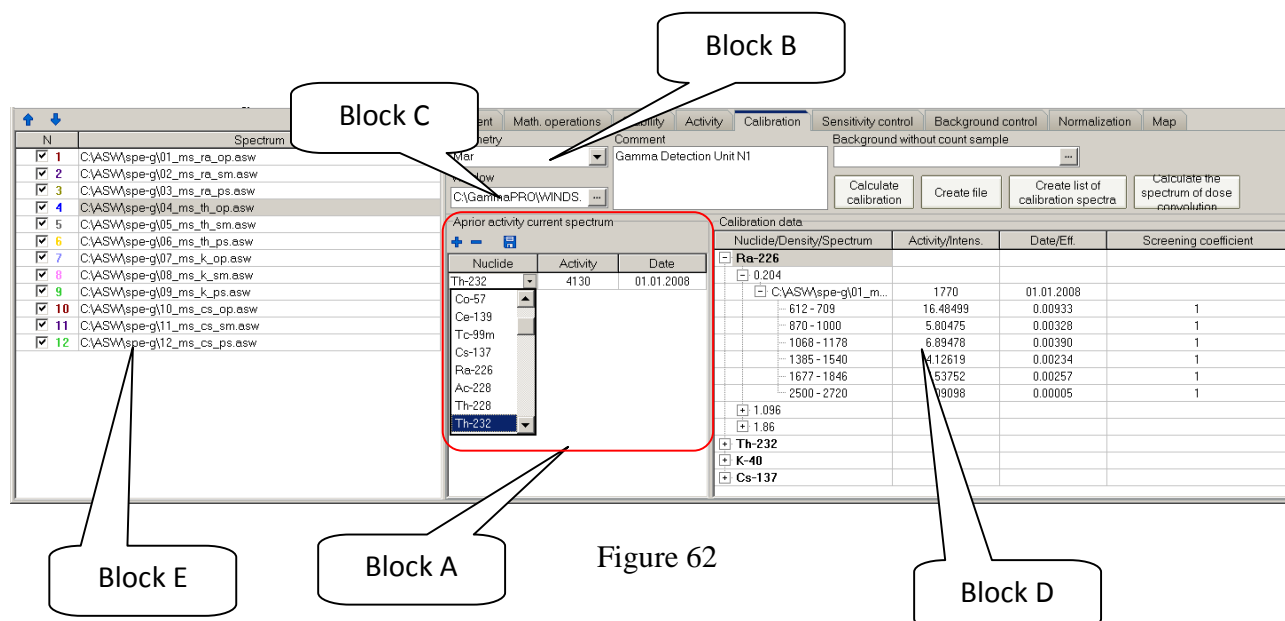

Figure 62
To this end, mark the first spectrum in the spectrum list (Fig. 62, block E) and click button (see Fig. 62, block A). In column **Nuclide** of the string which will appear below, choose the radionuclide from the drop-down list. Specify the activity or radionuclide concentration in the reference sample in column **Activity**. Specify the certification date of the radionuclide activity or concentration in column **Date**. Then click button to save the data. The procedure described is applied to each spectrum in the main table (Fig. 62, block E).
14.2.6 Choose appropriate geometry in field **Geometry** (Marinelli 1L, 0.25L vessel and so on, see Fig. 62, block B).
14.2.10 All the calculated calibration sensitivity coefficients will appear as a tree structure in field **Calibration data** (see Fig. 62, block D).
In case the spectrometer should be calibrated in units of measurement different from Bq, for example, mass fraction, percent and so on, the calibration procedure remains the same as described in section 14.2. The certified values of the samples and their units of measurement are specified in the table (Fig. 62, block A) with no changes according to paragraph 14.2.5. At the same time, one must additionally edit the output calibration file (*.clb) and specify the proper units of measurement in the string containing the radionuclide's name as shown in the example below.